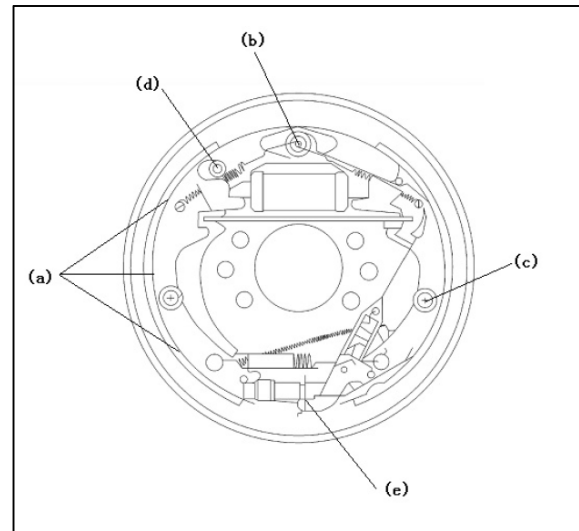

Fig. 5-18 1.8t-3.5t tele-truck
- (4) Add #2 calcium base lubricating grease at a, b, c, d respective lubricating points as indicated in Fig 5-18, and be careful not to allow this grease to be adhered on Brake shoes;